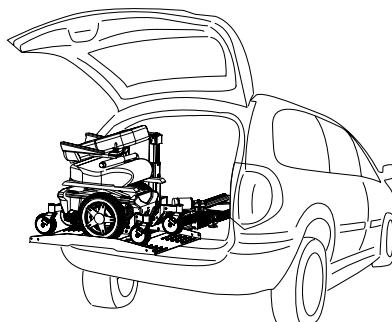

Figure 3-6
5. Double-check that the mobility device is secured properly on the platform. While holding the hand control, stand to the side and away from the lift. Press the "Up" button. When the platform stops retracting, release the button. The platform will automatically lock itself into a travel position. Close the door slowly, making sure that no part of the mobility device or other objects in the cargo area contacts the door. *See Figure 3-6.*